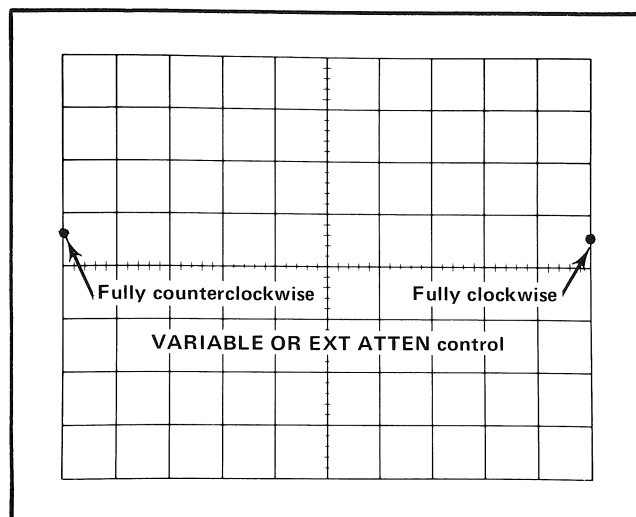

Fig. 5-1. The correct dot range of movement for the MANUAL scan operation.
l. Adjust the SWEEP CAL and HORIZ POS controls so that the dot is at graticule line zero (extreme left vertical line) with the Sweep VARIABLE OR EXT ATTEN control fully counterclockwise and is at graticule line ten (extreme right vertical line) with the control fully clockwise. See Fig. 5-1 which shows the correct range of the dot movement. The SWEEP CAL control sets the distance the dot moves and the HORIZ POS control positions the dot range of movement on the CRT face.